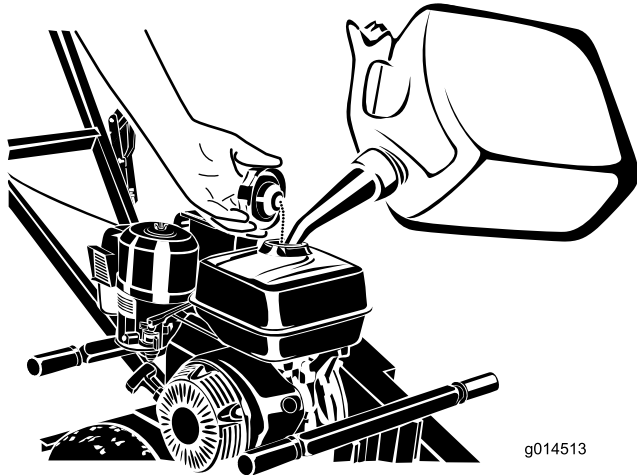

Figure 8
3. Clean around the fuel-tank cap and remove it (Figure 8).